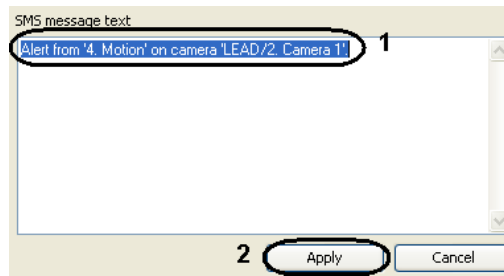

Fig. 6.5—36 SMS message text
- To close the window and save changes, click **Apply** (see Fig. 6.5—36, 2).